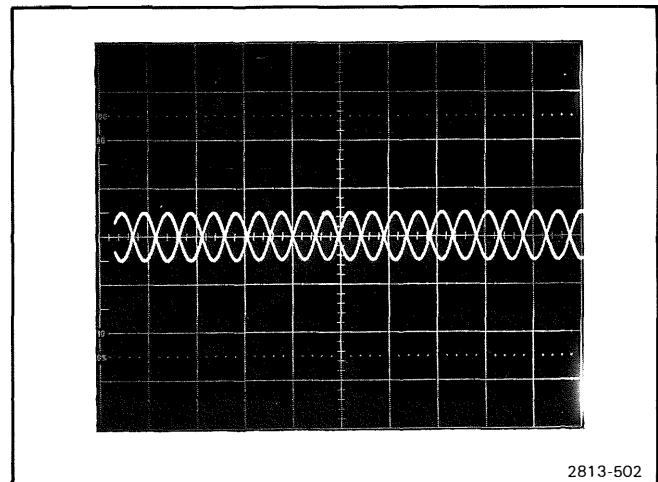

Figure 5-1. Display of bislope triggering.
g. **CHECK**—the two waveforms to see if their starting points are equidistant from the horizontal center line. Figure 5-1 shows the desired display.